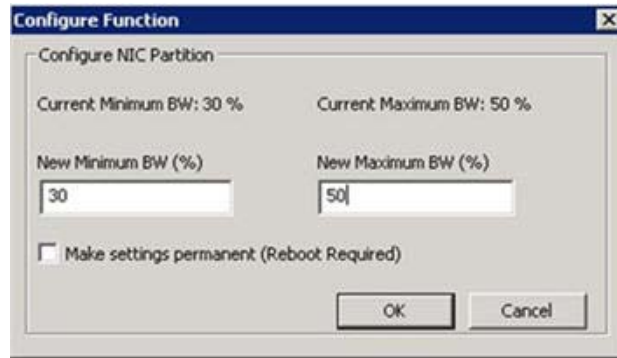

Figure 46: Entering New Bandwidth Values
3. Use the Configure Function dialog box to set the minimum and maximum bandwidth percentages, **New Minimum BW (%)** and **New Maximum BW (%)** (Figure 46).